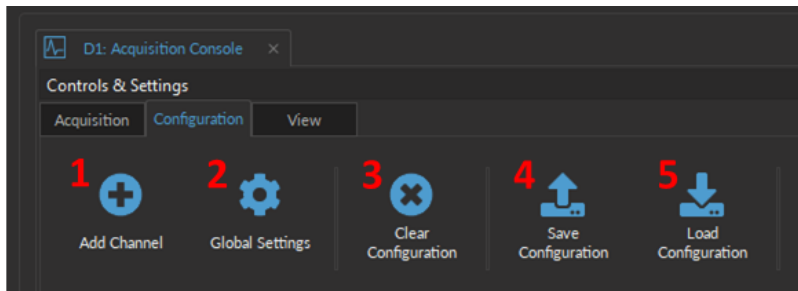

Figure 8.7: Configuration Tab
1. The **Add Channel** button (Fig. 8.7, 1) opens the **Channels configuration** window. How to *add* and *configure* a channel is detailed in Section 8.4. Table 8.1 describes different types of channels available, their use cases and their individual sections.
2. The **Global Settings** (Fig. 8.7, 2) opens the **Global Options** window in Fig. 8.8, where user can set the acquisition sampling rate and specify the master trigger options. See Sections 8.3.2.1 for more details.
3. The **Clear configuration** button (Fig. 8.7, 3) resets the acquisition view and all other parameters set. Any configurations not saved will be lost.
4. The **Save configuration** button (Fig. 8.7, 4) allows a console configuration to be saved in the **.doric** format. This file preserves the current channel configuration/parameters, the Acquisition View window organization, and any custom trace colors and names.
5. The **Load configuration** button (Fig. 8.7, 5) imports a pre-configured **.doric** file into the module.